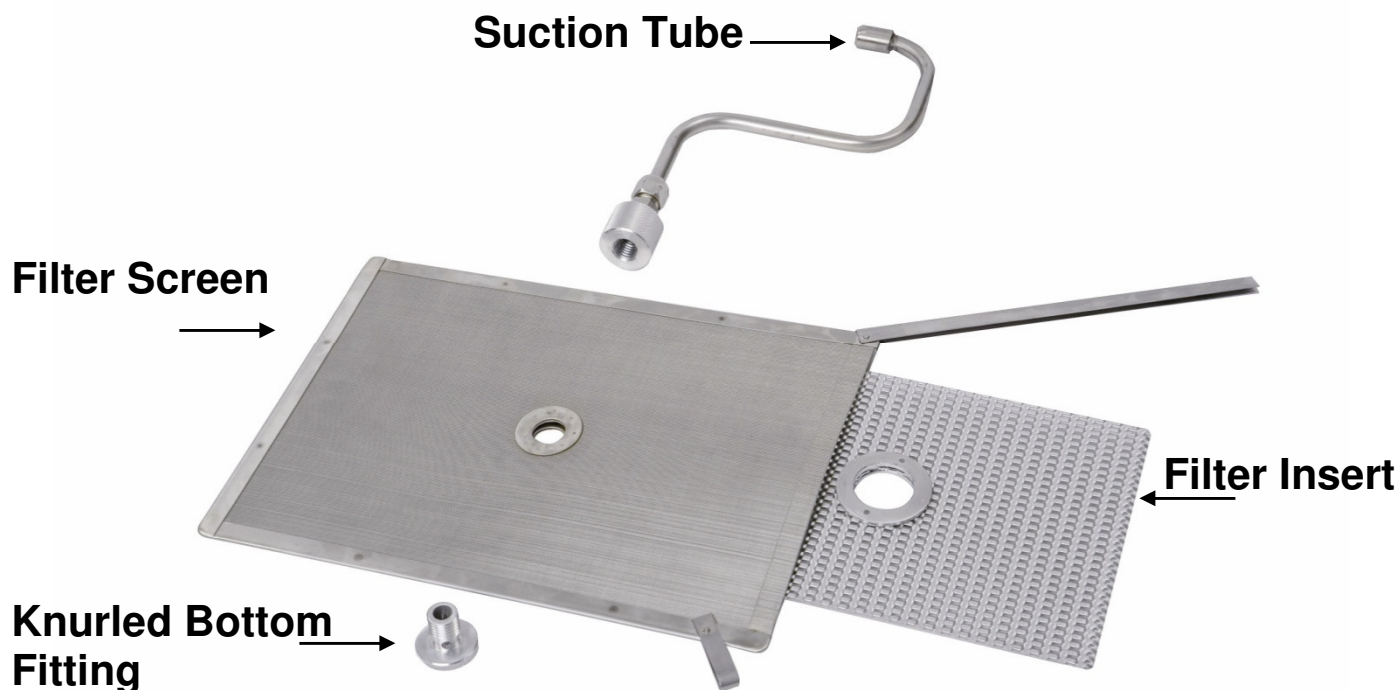

Fig. 1
- Carefully line up the suction tube nozzle so that it mates with the oil receptacle block mounted on the frame of the fryer battery. Close the drawer. See Figures 1, 2 3 and 4